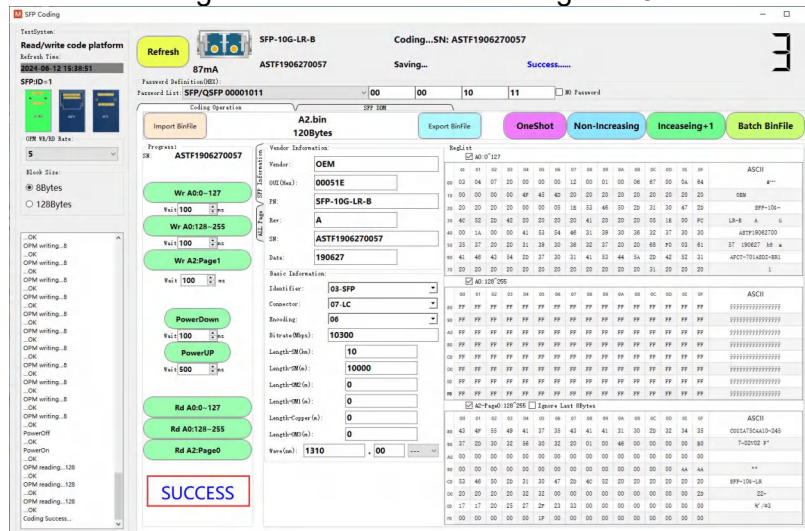

Figure 16
3.1.6 Click “OneShot” and wait for the prompt “Success,” indicating that the module programming is complete (Figure 16).
3.2.3 Click “OneShot” and wait for the prompt “Success,” indicating that the module programming is complete (Figure 16).